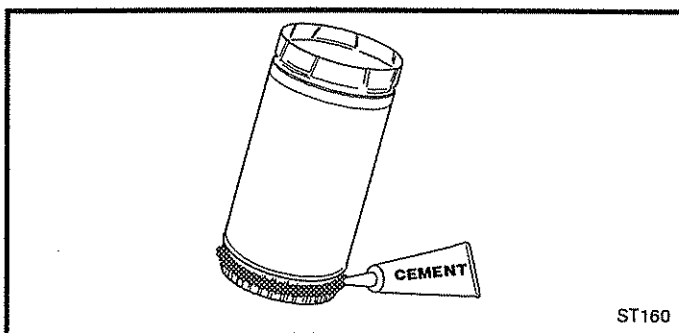

Fig. 28 Apply cement to the crimped end of the Simpson-Dura-Vent Adapter pipe.
- 2) Apply a 1/4" bead of cement around the outside surface, about one inch from the crimped end. Insert that end into the outer flue collar and secure it with the three sheet metal screws supplied. (Fig. 28)